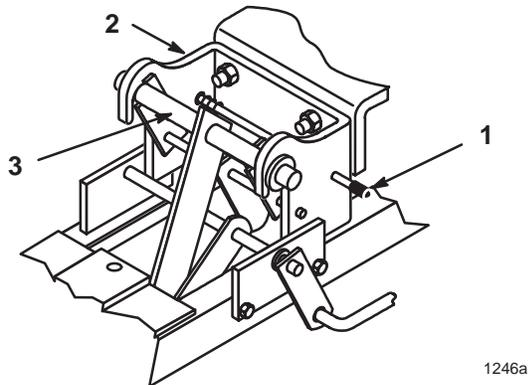

Figure 14
6. Push in on the front hitch release button to open the hitch and remove the blade lift arm (Fig. 14).